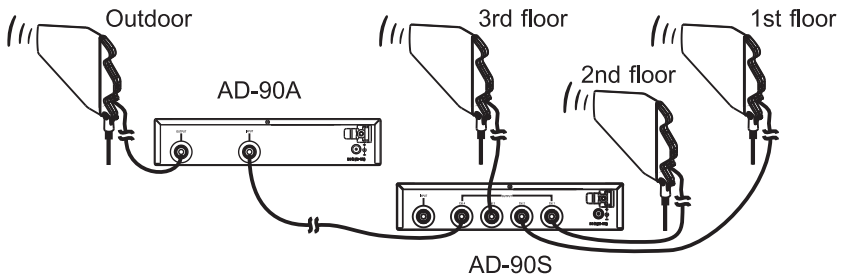

Fig. 4
- (B) When the antenna cable between AD-90S and external antenna is too long, AD-90A wide-band high-power amplifier can be used to enhance the transmit power of the signal, which is suitable for outdoor rugged terrain or multiple indoor floors. In special places such as large-area audio broadcasting, the transmission quality and signal stability of long distances in various regions can be greatly improved, as shown in Fig. 4.